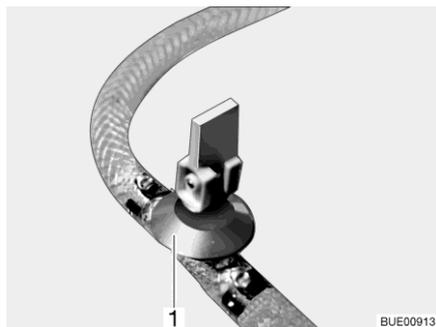

Fig. 131 Drain cock
- Close the drain cock(s). Position the rocking lever (Fig. 131,1) horizontally.
- Open drain cock(s) (Fig. 131). To do so, set the rocking lever (Fig. 131,1) in a vertical position. The boiler is drained to the outside.